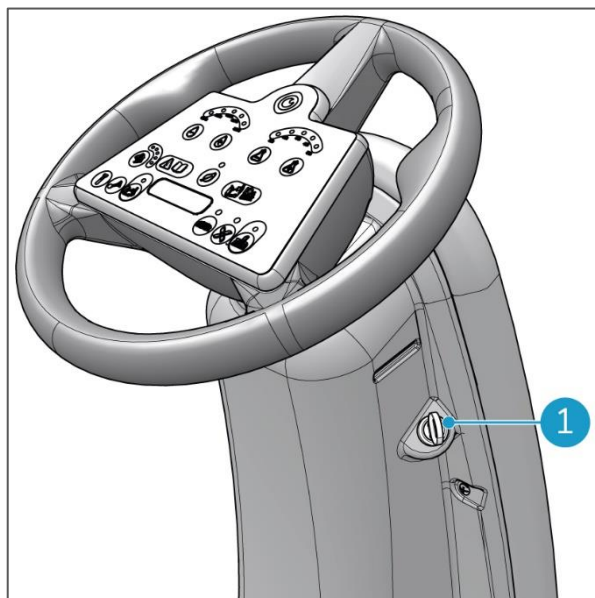

Figure 57
1. Turn the ignition key to position "0" and keep the key with you during maintenance (Figure 57, pos 1).